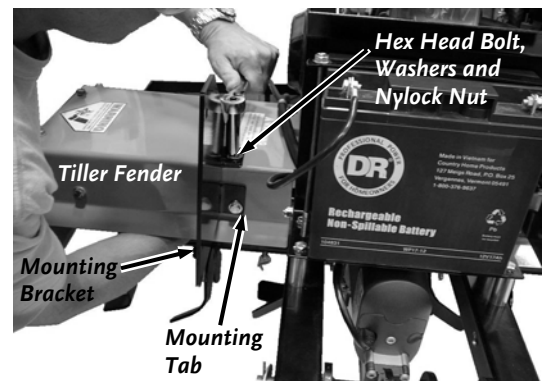

Figure 4
2. Position the left hand Mounting Bracket onto the back face of Tiller Fender (**Figure 4**), with mounting tabs facing in, and replace the hardware you removed in step 1. Install a 5/16-18 X 1" Hex Head Bolt (on top), Washer and Nylon Locknut (1/2" Wrench) to secure the Bracket to top of the Tiller Fender. Repeat this step to install the right hand Mounting Bracket.